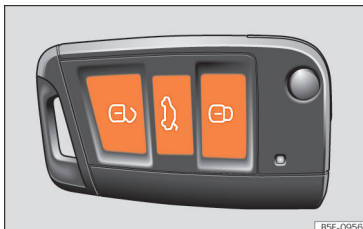

Fig. 51 Remote control key: keys.
- Lock: press the  **Fig. 51** button.